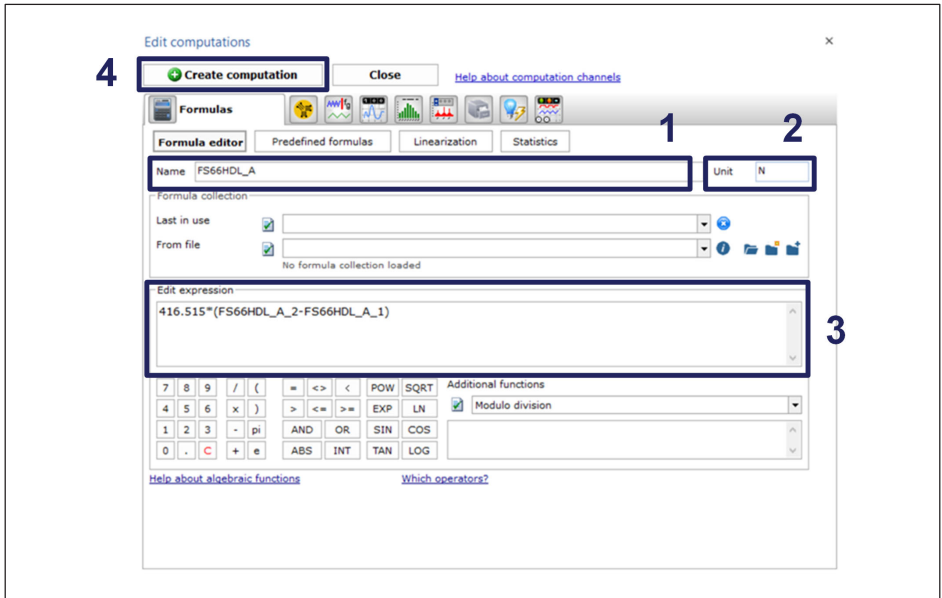

Fig. 5.7 Creating a computational channel to configure the sensor
- Configure the computational channel with the sensitivity values corresponding to each sensor. An example of a configuration for the FS66HDL is given in Fig. 5.7.
- Press “create computation” button (number **4** in Fig. 5.7).